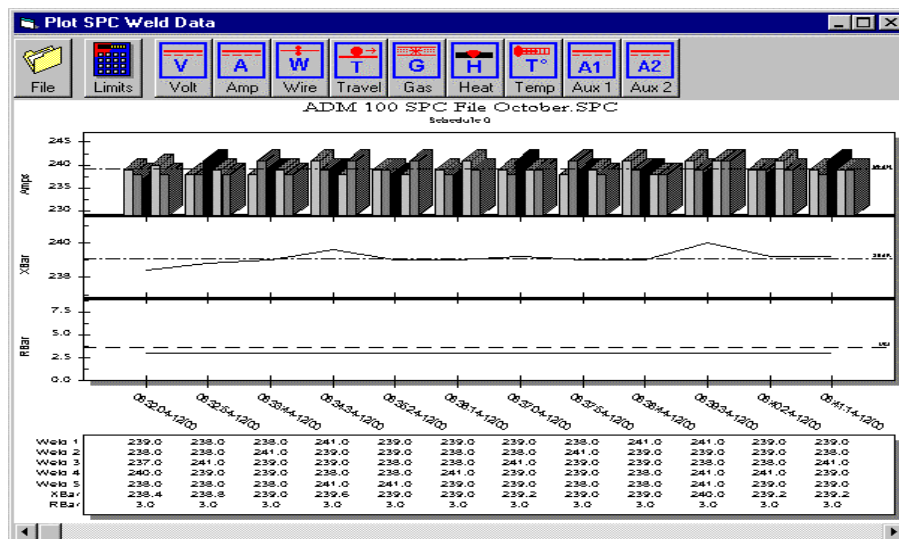

Figure 17 – Plot SPC Weld Data Dialog
6. The “Plot SPC Weld Data” graph chart dialog will appear with the SPC Data graphed and plotted. See figure 17.